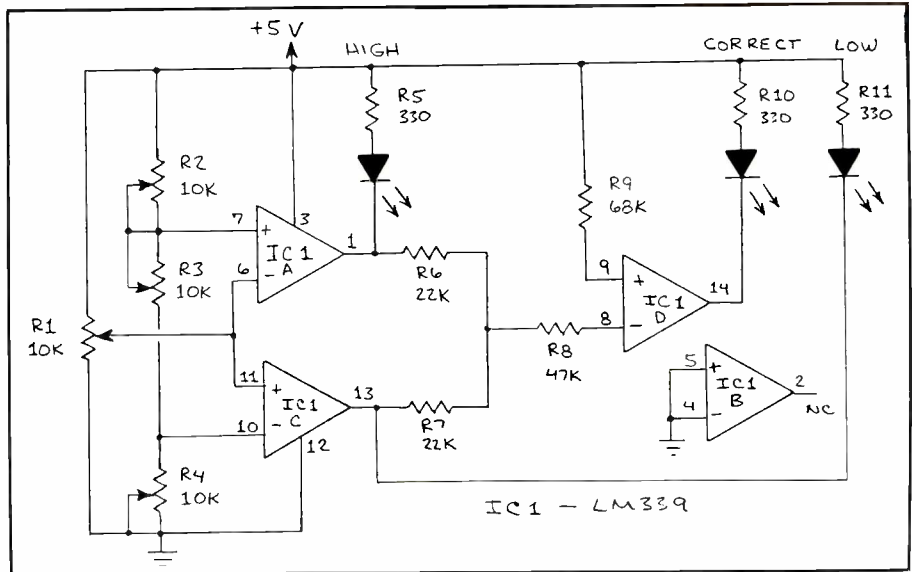
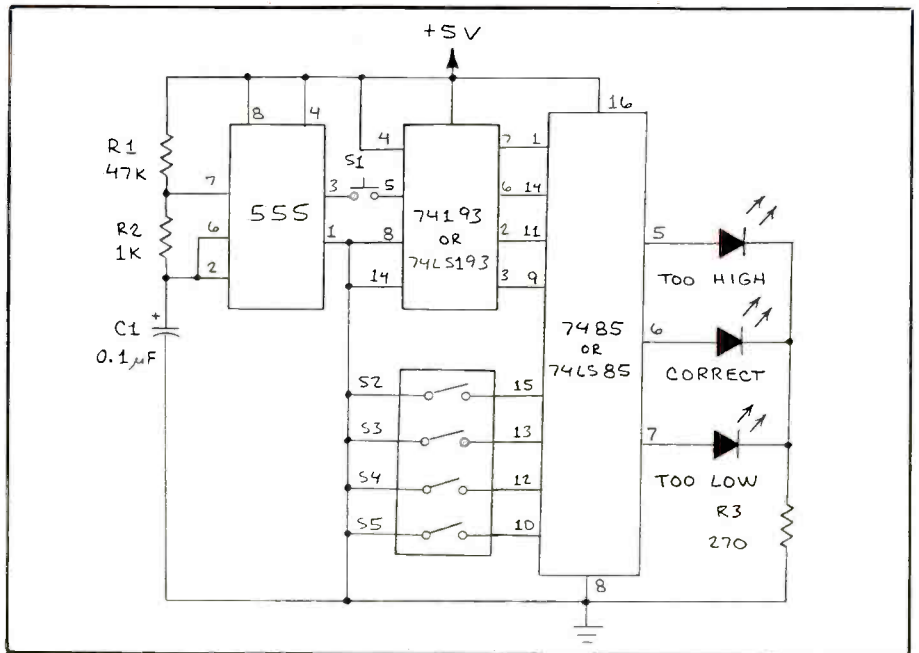

Fig. 1. A simple analog hi/lo game.
Fig. 2. A hi/lo game implemented with digital logic.
• **Analog Hi/Lo Game.** Shown in Fig. 1 is the schematic diagram of a simple hi/lo game you can quickly assemble from some potentiometers, resistors, LEDs and an inexpensive quad-operational amplifier. The circuit is known as a window comparator. In it, *R1* supplies an adjustable voltage to the circuit's input. Potentiometers *R2*, *R3* and *R4* define the upper and lower limits of the window. The CORRECT LED lights when the input voltage falls within the window's limits. Otherwise, the HIGH or LOW LED turns on.
• **Combinational-Logic Hi/Lo Game.** A schematic diagram for a hi/lo game implemented with a mix of analog and both combinational and sequential digital logic is shown in Fig. 2. Since the brains of the game is a combinational-logic network (a four-bit 7485 comparator), we'll call it a combinational-logic high/low game.
The Fig. 1 analog and Fig. 2 combinational-logic hi/lo games can be modified, but not nearly as quickly as the listing given above. For example, to amend the hi/lo computer program to recycle for a new game at your request, simply add these lines: